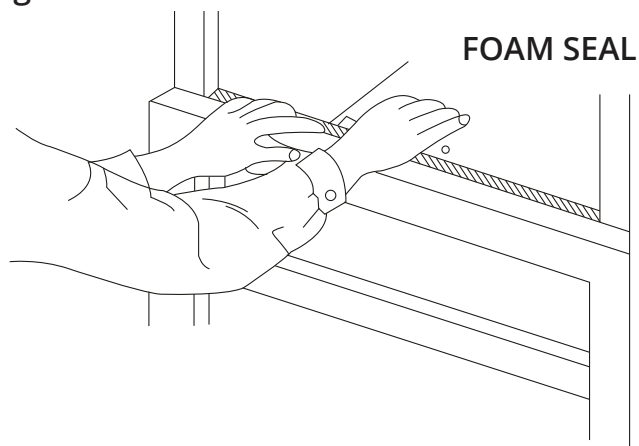

Fig. 26
H. Cut the **Window Sash Foam** and insert it in the space between the upper and lower sashes, as shown in **Fig. 26**.